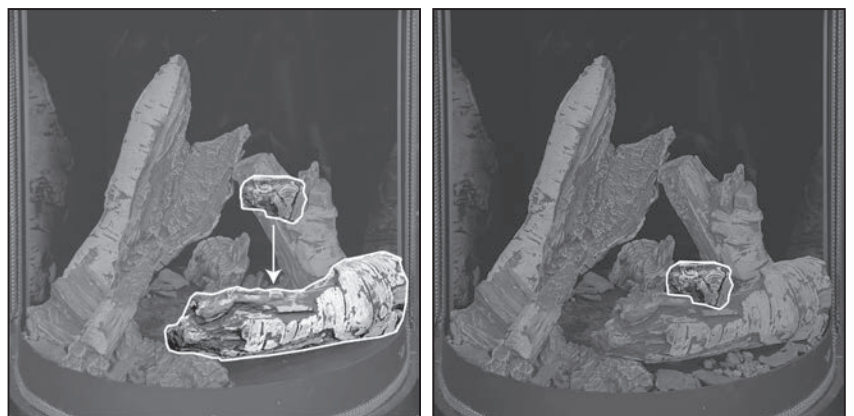

Figure 105: Step 8 - Log 8
STEP 8: Log 8 should notch onto Log 7 nicely. See Figure 105.